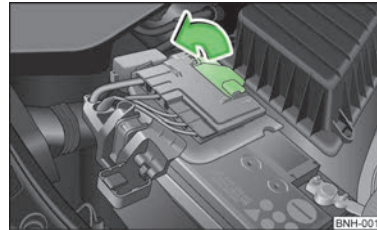

Fig. 103
- Push the lid in the direction of the arrow » Fig. 103.